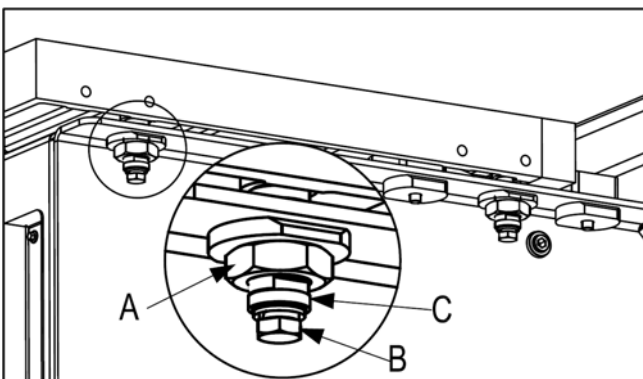

Fig.36
- 2, There are four bolts support the main table on four cabinet corners. Loosen A and B and turn bolt C for height adjustment **Fig.36**